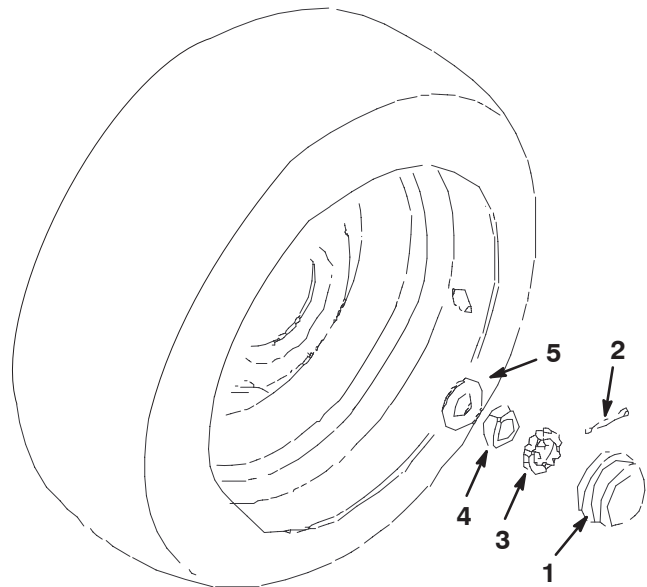

Figure 67
- Remove dust cap from end of wheel spindle. Also remove cotter pin securing retainer (Fig. 67).
- Tighten the jam nut (Fig. 67) to approximately 75–100 in-lbs using a hand wrench.